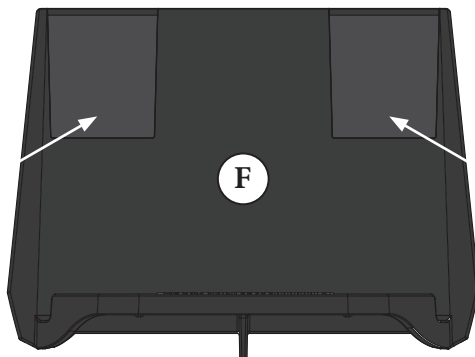

FIG. 4
Ensure that the surfaces on the Bucket (E) and Caster Mounts (F) are clean and dry. Remove a square from the Double Sided Tape (G) and apply to the Caster Mount in the recessed location at each corner [FIG 4].